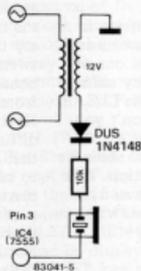

Figure 5. Fully monaural calibration is used to set the frequency of the emergency standby power supply. The only other requirement is one human ear!
- Connect the earpiece or tweeter as shown in figure 5.